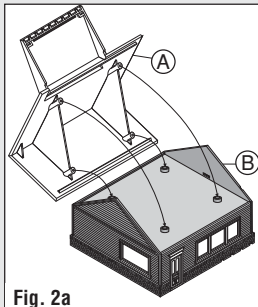

Fig. 2a
- Position Building Shell ② with 3-part window facing front, then place the Roof ① with the canopy facing front (Fig. 2a).